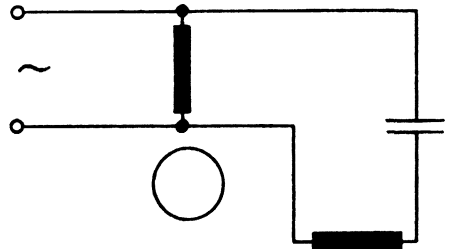

Fig. 2
2. The capacitor remains connected for the whole operational time of the motor. Fig. 2. The capacitance of the operating capacitor must not be too high as the auxiliary winding then becomes continuously overloaded and results in decreased starting torque.